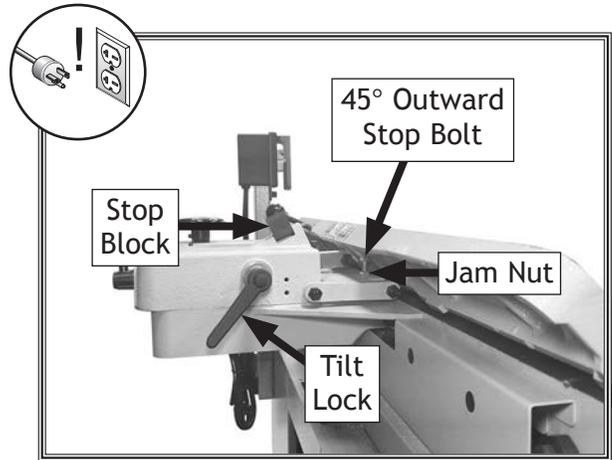

Figure 56. Fence set to 45° outward.
2. Loosen fence tilt lock, rotate stop block up, then tilt fence approximately 45° inward onto stop bolt (see **Figure 56**).
4. Loosen jam nut on 45° stop bolt and adjust stop bolt until fence is exactly 45° outward while resting on stop bolt (see **Figure 56**). Verify angle, then retighten jam nut.